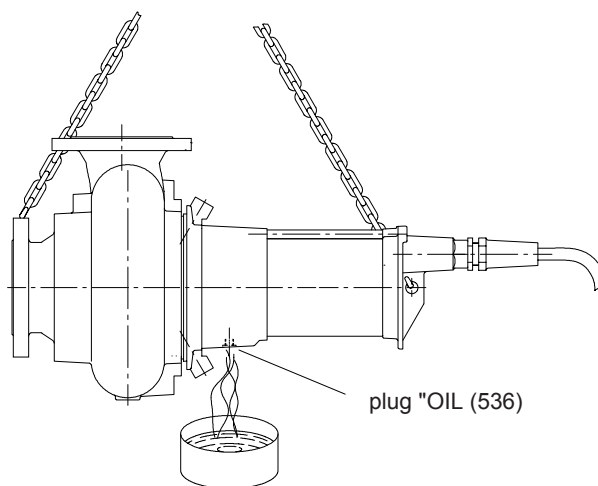

Fig. 9
Remove screw plug "OIL" (536) and drain oil chamber casing (504) completely, by turning the pump around slowly until opening "OIL" is upside down (Fig. 9). On larger motor sizes there may be another screw plug directly below the opening "OIL" on the back cover (507). Removing this plug will help remove the last bit of oil.